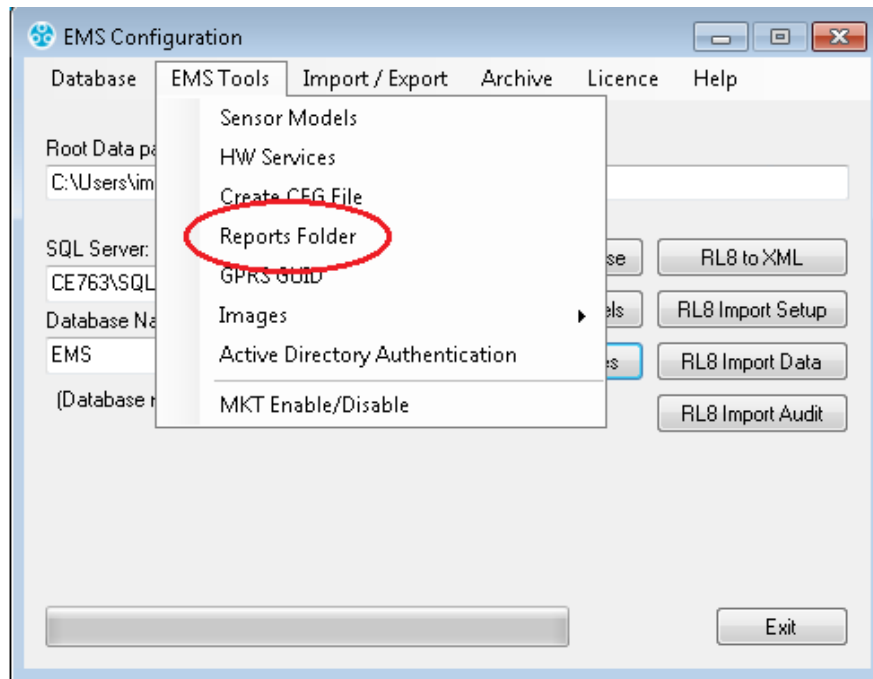

Figure 129
11. Select **Reports Folder** from the **EMS Tools** menu entry in the **EMS Configuration Ver x.x.x.x** window. See Figure 129: